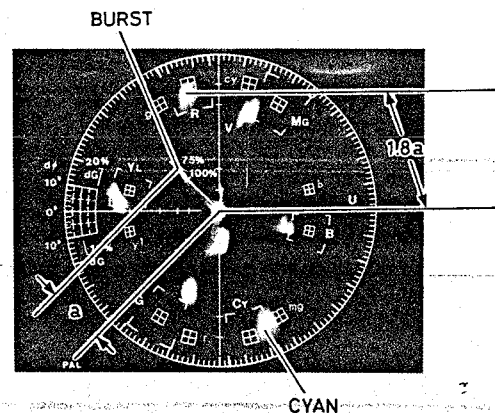

Fig. 4-43 Chroma Gain and Flicker Cancel Adjustment
* Adjustment using vectorscope (Fig. 4-43)